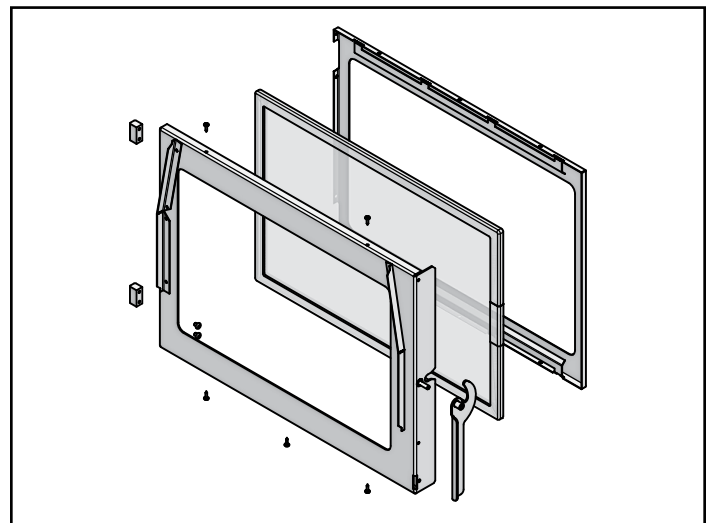

Figure 24.3
2. Using a Phillips head screw driver, remove 4 screws, 2 on the top and 2 on the bottom. Remove metal bracket and then remove the glass (**Figure 24.3**).